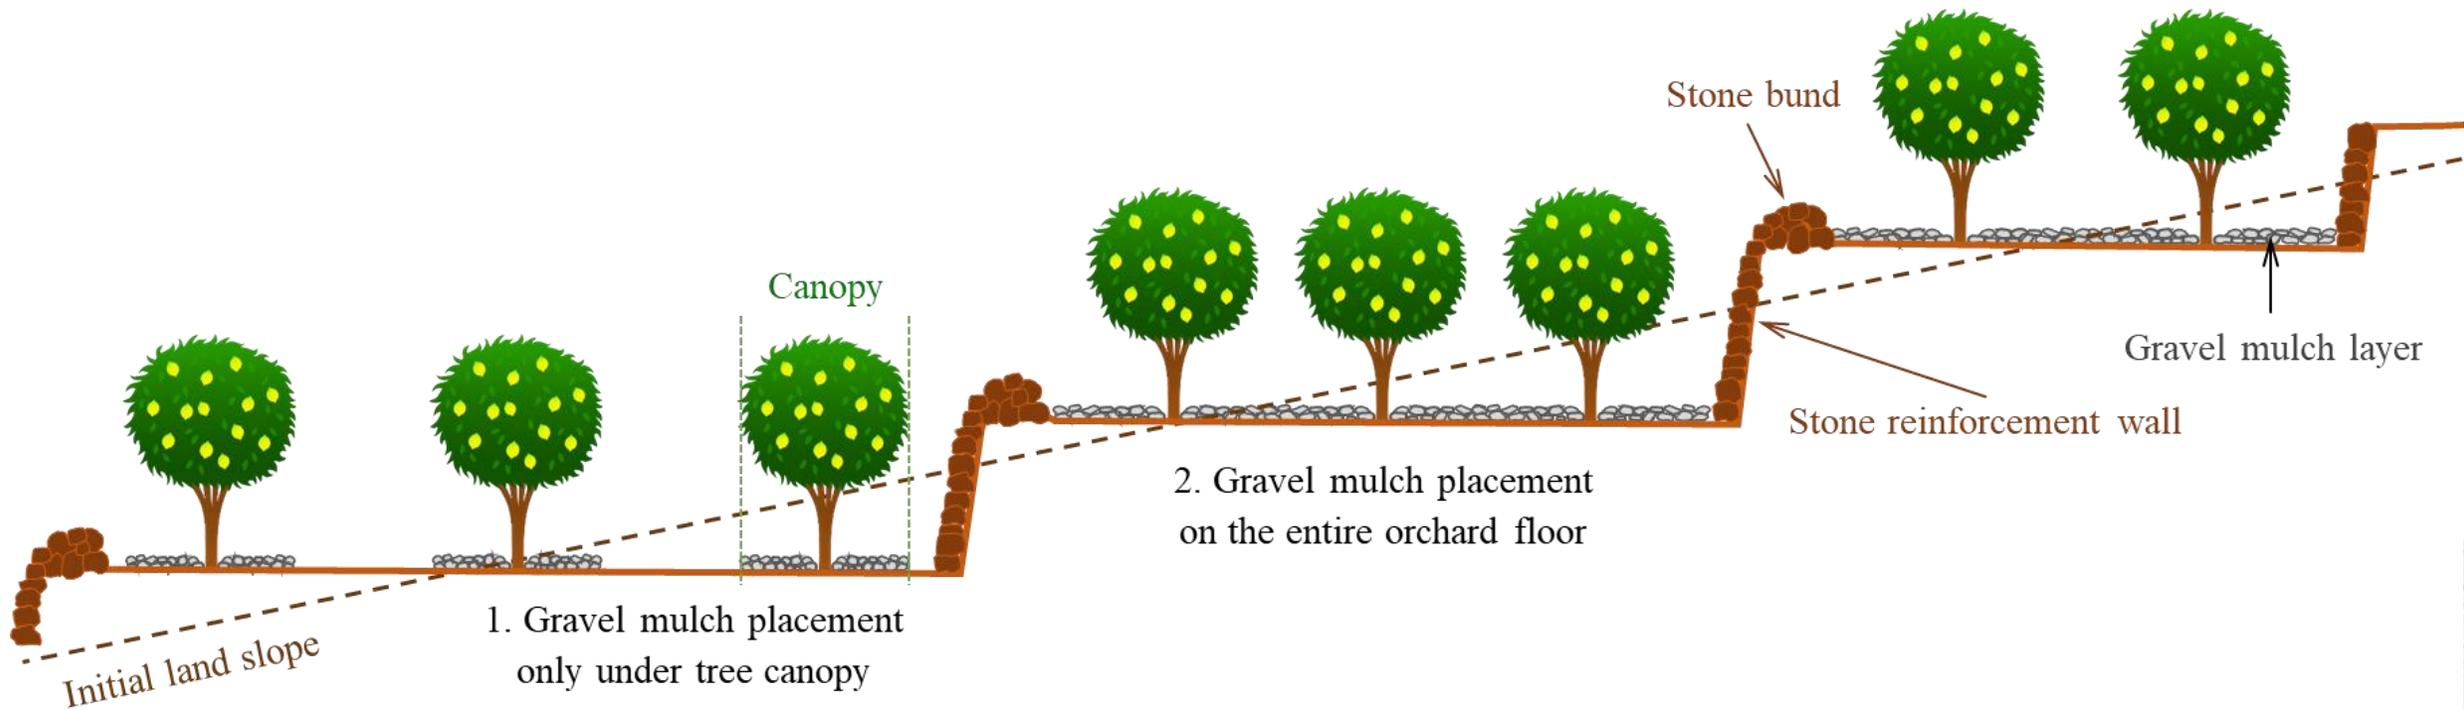

Figure 1. Schematics of terracing and gravel mulch placement in the orchards.
- Gravel mulch can be placed in the tree rows, covering the tree canopy, or be applied to the entire orchard floor (Figure 1).